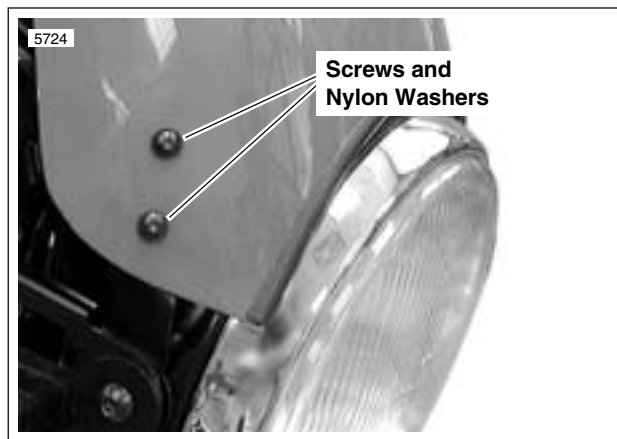

Figure 2-110. Windscreen, Right Side
1. See Figure 2-110. Remove two screws and nylon washers on each side and detach windscreen from brackets
4. See Figure 2-110. Install two screws and nylon washers on each side.